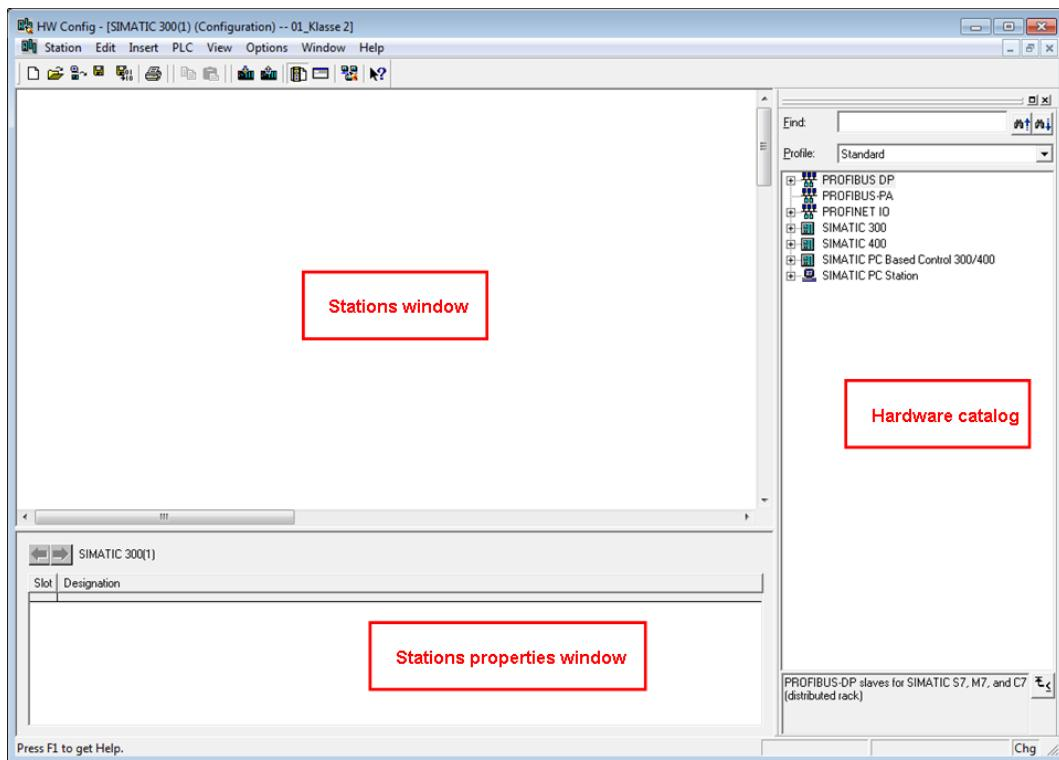

Figure 2.2: Hardware-Konfigurator – STEP 7
- The WDGA encoder appears in the "Hardware catalog" under "PROFIBUS-DP", "Other field devices", "encoder ", "Wachendorff Automation ", "WDGA PROFIBUS Class4" (see Figure 2.2).